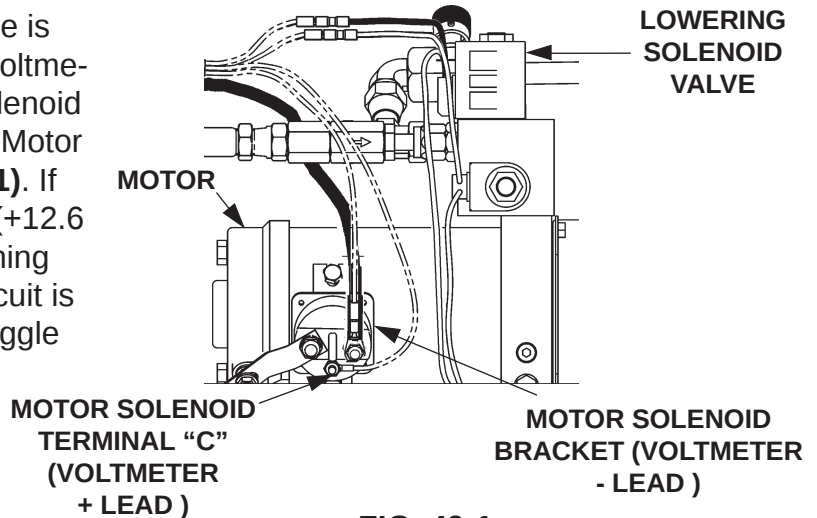

FIG. 49-1
1. Check if Lowering Solenoid Valve is constantly energized. Connect voltmeter negative (-) lead to Motor Solenoid bracket and positive (+) lead to Motor Solenoid terminal "C" (FIG. 49-1). If voltmeter reads battery voltage (+12.6 Volts DC minimum) without pushing the toggle switch, the control circuit is operating incorrectly. Check if toggle switch, wiring or coil are faulty.